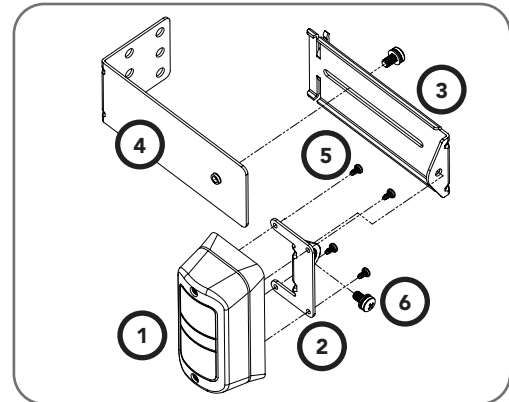

Fig. 6.9
- Attach the mounting bracket (4) to adjustment bracket (3) with the pan head screw (6) (supplied) (Fig 6.9)
- Attach the PE 2000TS Bracket (2) to PE Beam Transmitter (IR200TS-TX) with four tapitite screws (M3x5) and attach the other side to adjustment bracket (3) with the pan head screw (6) (supplied).